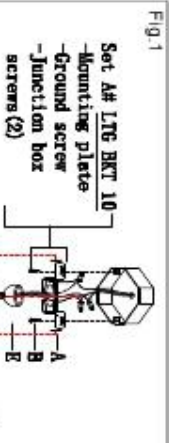

Fig.1
- HANGING THE FIXTURE (Fig. 1)**
- COMPLETING THE INSTALLATION (Fig. 1)**
8. Place the canopy (C) over the mounting plate (A) and secure with screws (D).
9. Place the glass shade (H) and the check ring (I) onto the socket of the fixture body (G), then securely tighten the check ring (I) using the wrench (J). (The wrench (J) is a tool, when the installation is complete, it must be taken away).
10. Hang the adorning (K) to the fixture body (G).
11. Install the light bulb (not included) in accordance with the fixture's specifications: **DO NOT EXCEED THE MAXIMUM WATTAGE RATING ONE (1) FAS DEPASSER LA PUISSANCE NOMINALE MAXIMALE!**
Note: Illustration (Fig. 1) on this manual is for installation purposes only. It may or may not be identical to the fixture purchased.